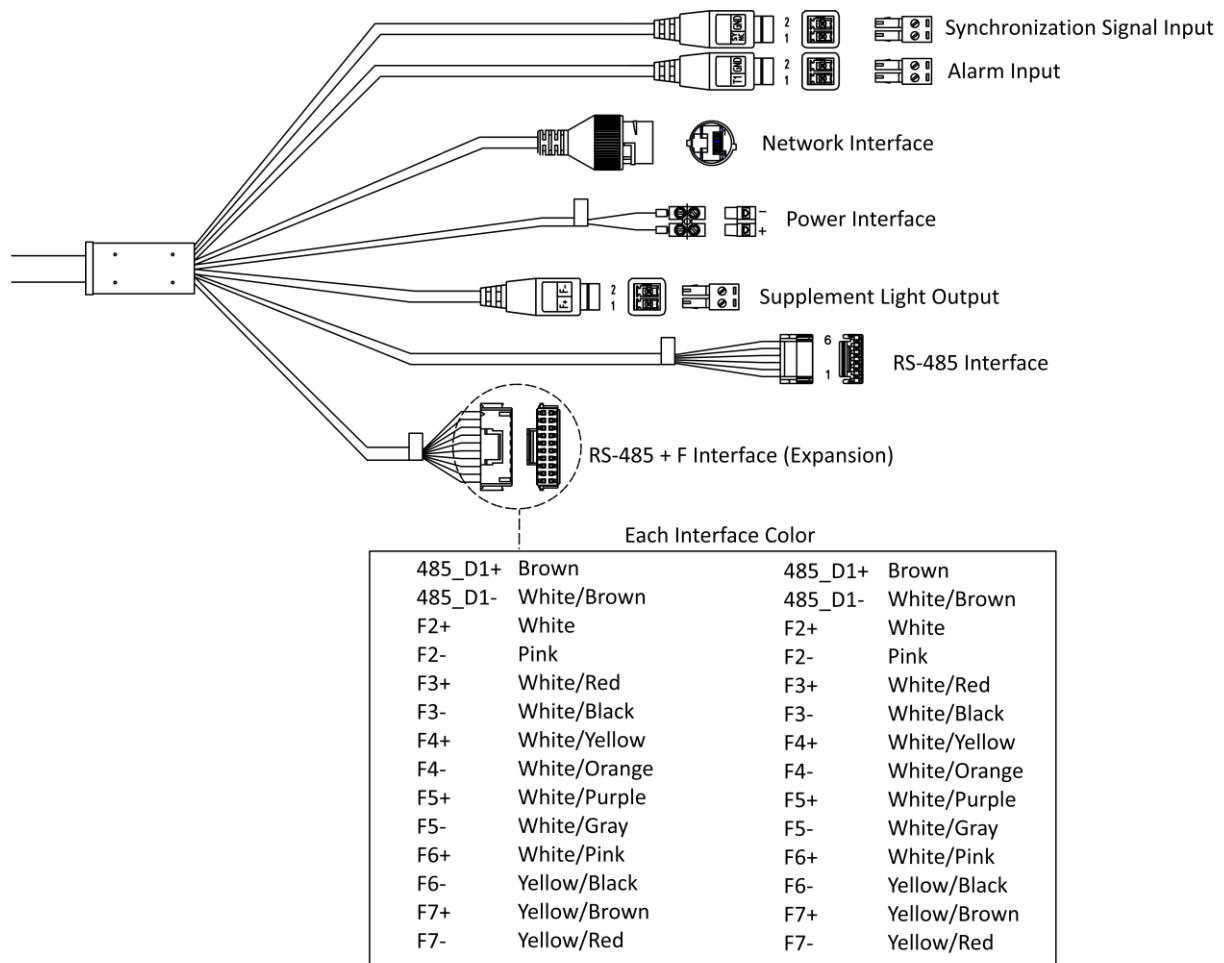

Figure 1-1 Cables and Interfaces
2) Connect the cables according to their corresponding functions. Refer to Figure 1-1 Cables and Interfaces for details.